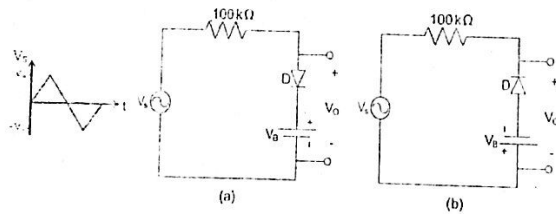

Figure 3.7: Experimental Circuit 2.
3. Do the same as in step 1 and 2 for the circuits in figure 3.7 with V_s wave shapes as drawn beside each figure having $V_m = 5$ volts. Parallel Branch 1 of circuit of figure 3.7(a) and Branch 2 of circuit of figure 3.7(b) and observe output.